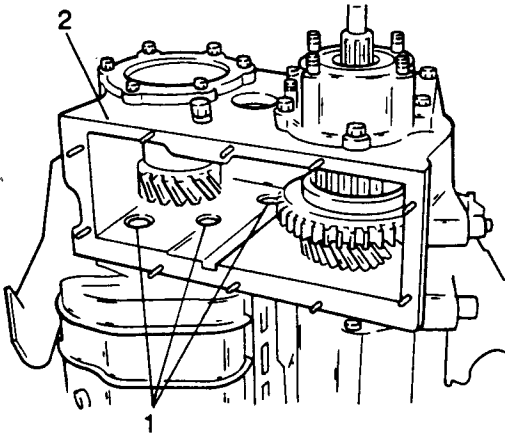

Fig H2.5
- (5) Refer to Fig H2.5. Remove the fixings bolts/nuts (1) that hold the gearbox to the transfer box.
- (6) Separate the transfer box (2) from the gearbox.